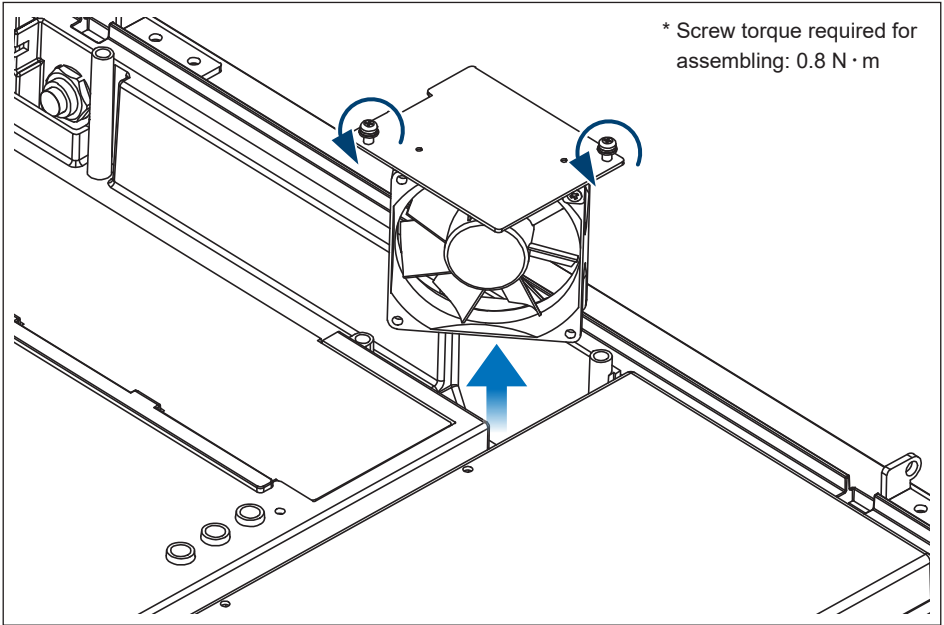

Figure 5-12: Take off the internal fan 1
- (3) Loose two self-retaining screws and remove the fan cabinet. **(Figure 5-12)**